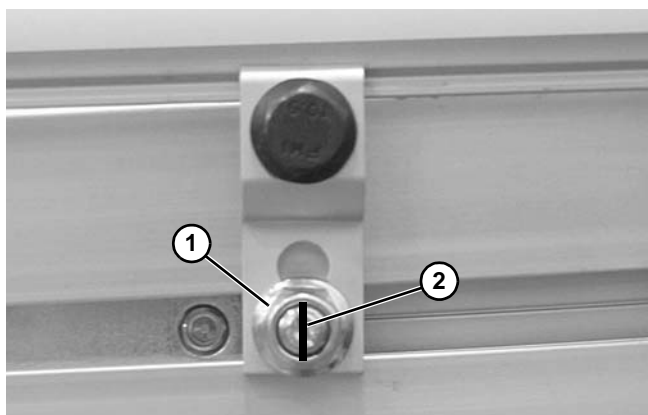

Figure 70
3. Tighten nuts (**Figure 70, item 1**).
*Be certain that slot (**Figure 70, item 2**) is close to vertical when finished tightening nut.*